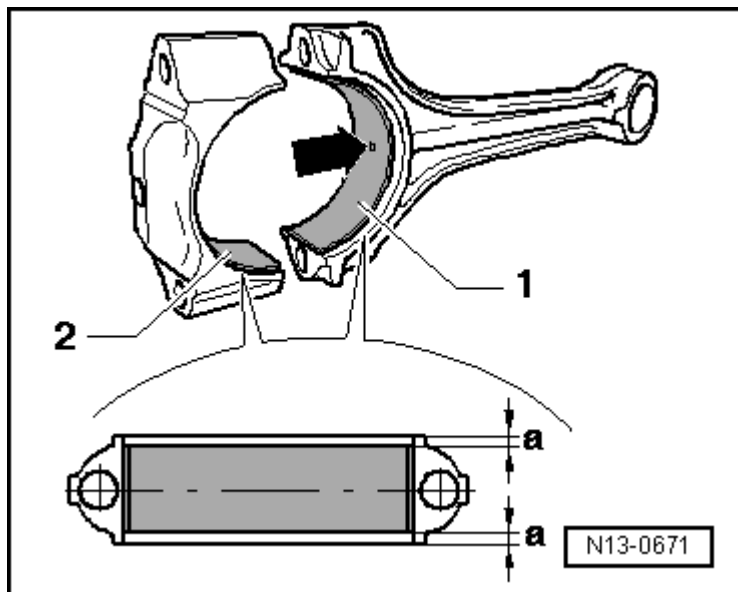

Fig. 22: Bearing Shells - Installed Positions
- Note the installed position, refer to **Fig. 22**.